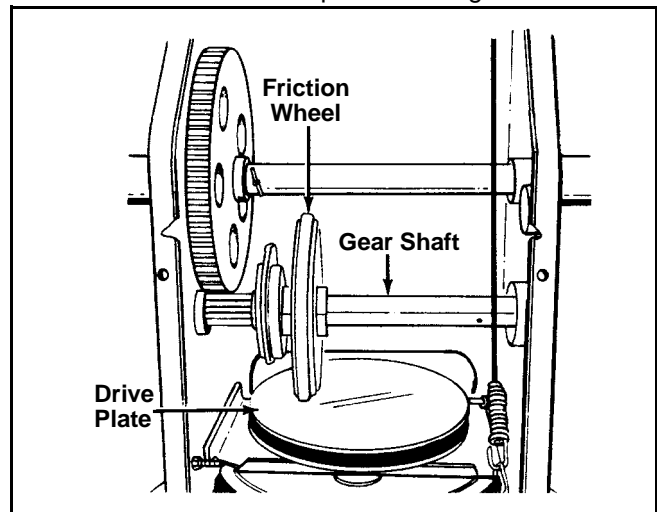

Figure 12
- With traction control engaged, the friction wheel must contact the drive plate. See Figure 12.